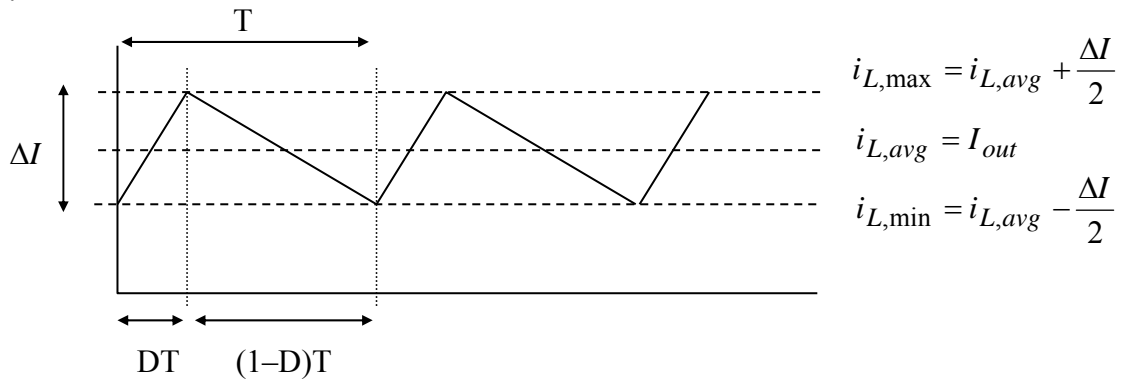
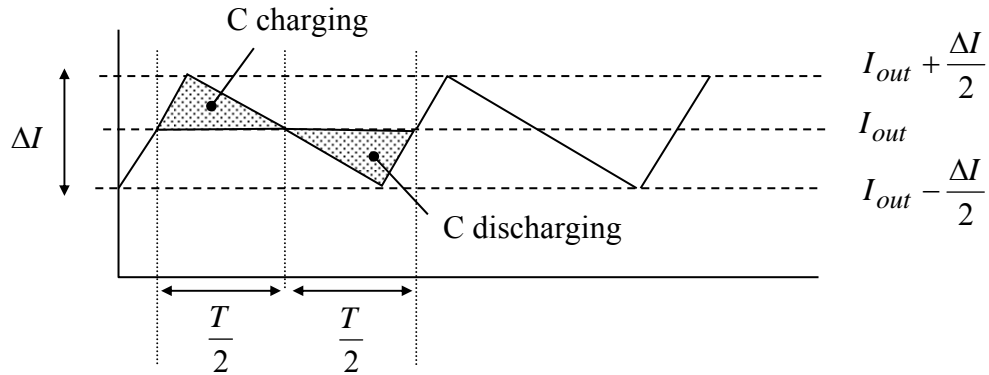
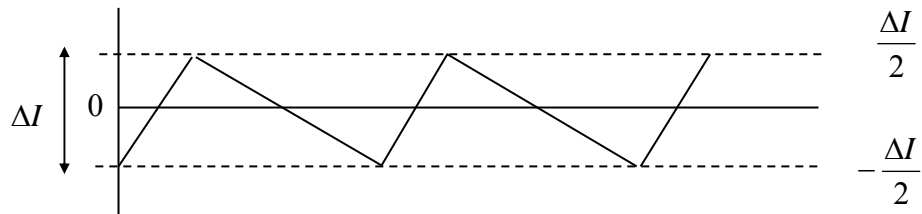

Figure 4. Inductor Current Waveform for Continuous Conduction
Figure 8. Inductor Current Graph Used to Illustrate Capacitor Charging and Discharging Intervals in Continuous Conduction
Figure 10. Capacitor Current in Continuous Conduction
Equations (2), (3), and (5) provide the necessary information to draw a graph of i_L , as shown in Figure 4.
Through the definition of rms, it can be shown that the squared rms value of the triangular waveform in Figure 4 is
Then, considering Figure 4, capacitor C must be charging when i_L is greater than I_{out} , and discharging when i_L is less than I_{out} , as shown in Figures 8, 9, and 10.
Each charging and discharging area in Figure 8 lasts for $\frac{T}{2}$ seconds, and each area represents a charge increment ΔQ for the capacitor. The net charge flowing into the capacitor for one period must be zero in steady-state so that the capacitor voltage is periodic. Using
and the area of the triangular charging region in Figure 8, the peak-to-peak ripple voltage on C must be
The inductor must have a sufficient rms current rating to safely conduct the current shown in Figure 4. The capacitor must support the maximum output voltage (i.e., corresponding to V_{in} when $D = 1$, from Equation (4)) and the rms ripple current shown in Figure 10. The ripple currents (i.e., total current minus average value) in Figures 4 and 10 are identical because of KCL at the node above C in Figure 1.